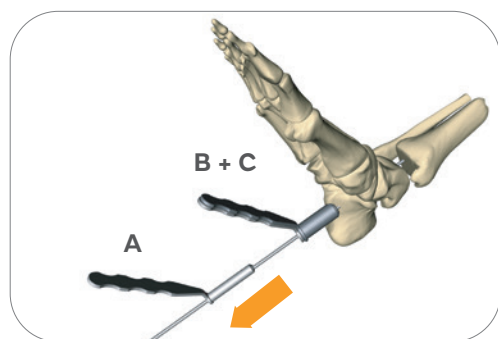

Figure 2-1
2-1 Remove the Internal Protection Sleeve (A). (Figure 2-1)